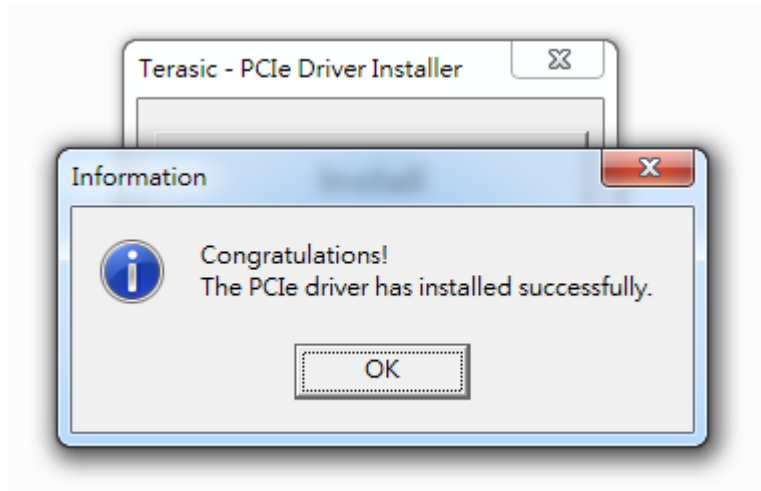

Figure 7-10 PCIe driver installed successfully
4. It takes several seconds to install the driver. When installation is complete, the following dialog window will popup shown in Figure 7-10. Click “OK” and then “Exit” to close the installation program.